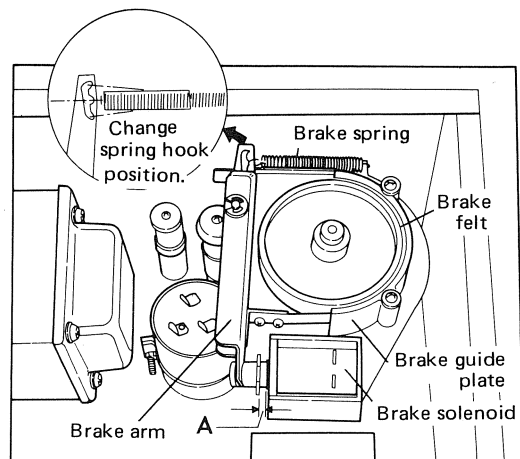

Fig. 6
1. That, with the solenoid inoperative (that is, with the brake ON), the clearance A in Fig. 6 is 4mm.
### • Adjustment (Figs. 6, 7)